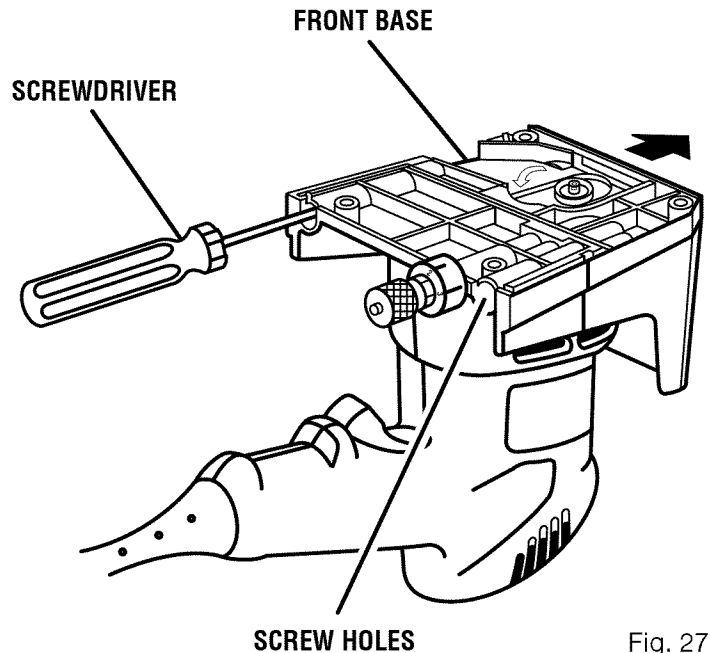

Fig. 27
- Pull front base in the direction shown by the arrow in figure 27 and remove.